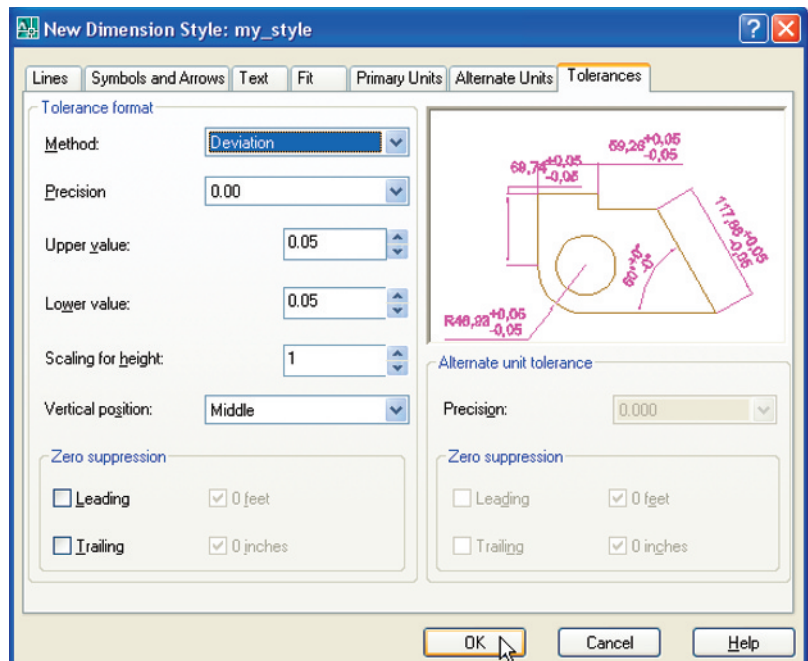

Fig. 6.22 The **Tolerances** sub-dialog of the **Dimension Style manager**
3. Click the **Tolerances** tab and in the resulting sub-dialog, make settings as shown in Fig. 6.22. Left-click the **OK** button, then in the main dialog, click the **Set Current** button, followed by a left-click on the **Close** button.